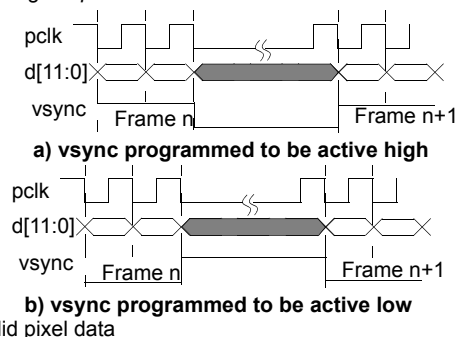

Figure 43. *vsync* in Level Mode
- Level mode should be used when the pixel clock, *pclk*, is programmed to operate in *free running mode*. In level mode the *vsync* output pin will go to the specified level (high or low) at the start of each frame and remain at that level until the last pixel of that row in the frame is placed on *d[11:0]* as shown in Figure 43. The *vsync* level is always synchronized to the active edge of *pclk*.